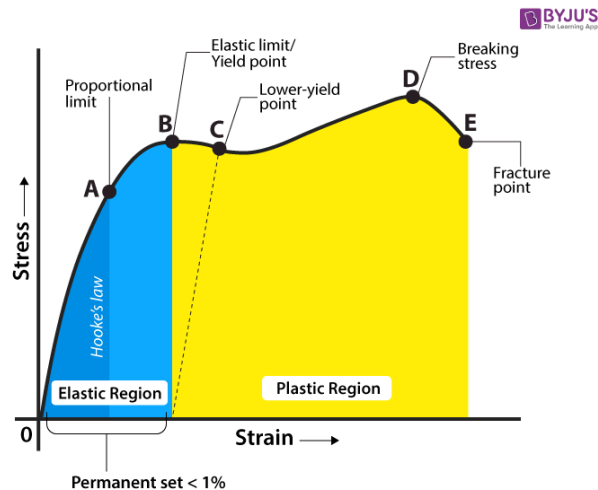

Figure 1: The stress-strain graph.
- The relationship between stress and strain can be demonstrated by plotting stress vs strain. Such a graph is called the stress-strain diagram. Consider a wire clamped or fixed on one end and gradually loaded with weights on the other end until it breaks. The stress-strain graph is as shown in Figure 1.